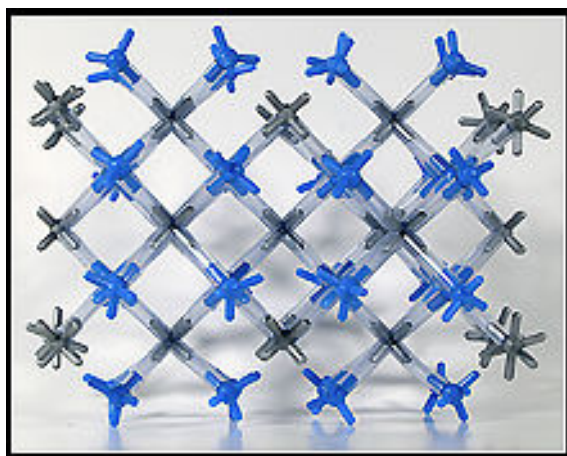

Fig. 11 Placing a fluoride on each free bond.
9. Put a fluoride ion on each tube with a free end. See Fig. 11.